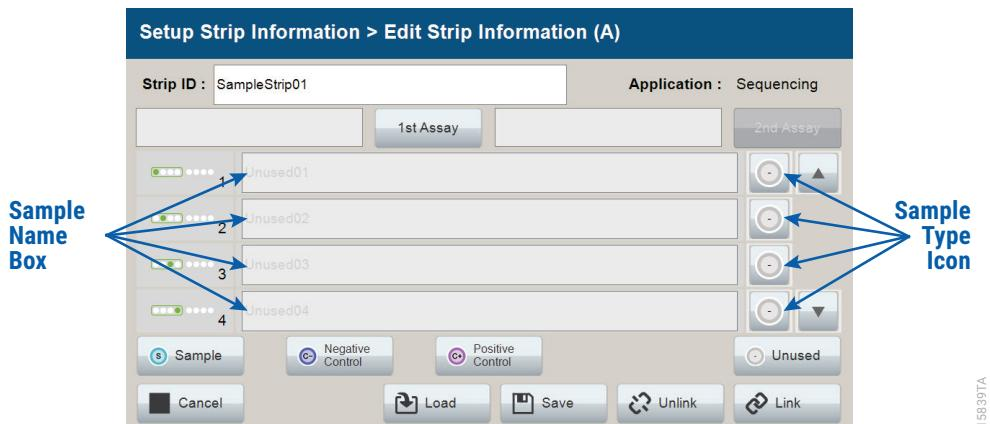
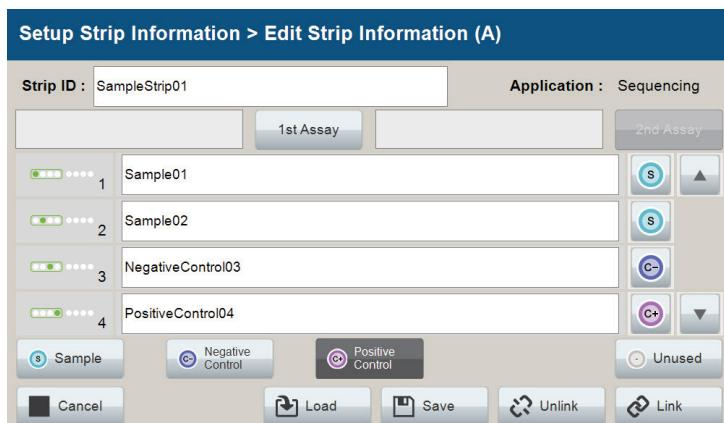
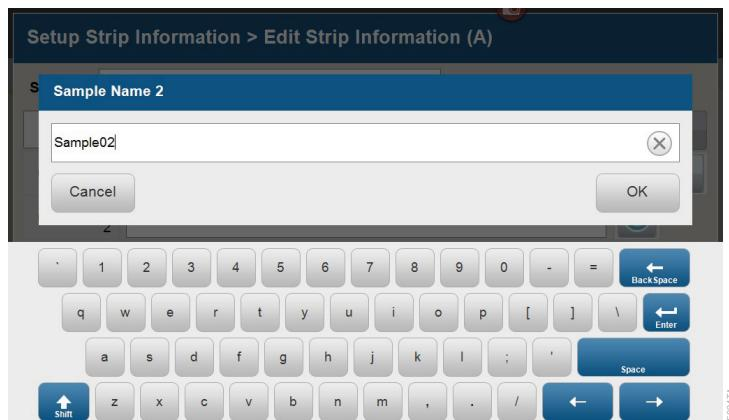
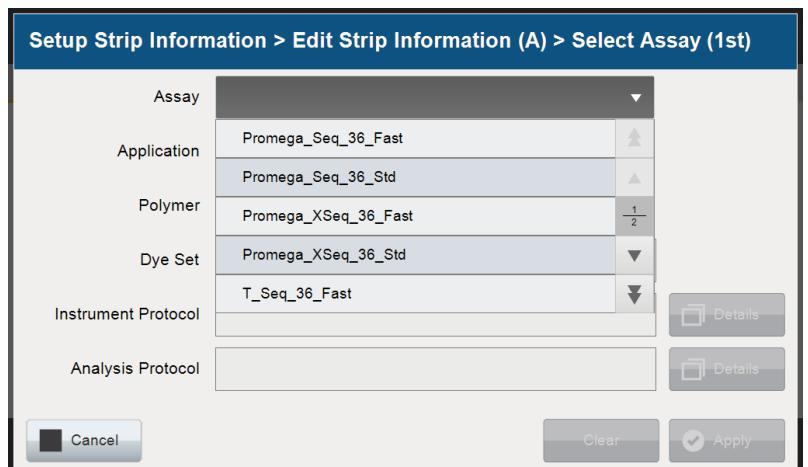

Figure 84. Sample Type and Sample Name on 'Edit Strip Information' screen.
Figure 85. Sample Name Entry on 'Edit Strip Information' screen.
Figure 86. 'Set Sample Name' window.
Figure 87. 'Select Assay' screen.
2. Select a sample type on the 'Edit Strip Information' screen (Figure 84). Sample types must be selected for each well position before the **Sample Name** box becomes active for entry of sample name. Sample types available for sequencing analysis are listed in the following table.
- To assign a sample type to a well, select the appropriate sample type along the bottom of the 'Edit Strip Information' screen (Figure 84), and then select the **Sample Type** icon to the right of the sample name field for the desired well. This icon will then display the sample type selected for that well (Figure 85).
- Enter a sample name for each well position by selecting the **Sample Name** box adjacent to the well number on the 'Edit Strip Information' screen (Figure 85). This opens the 'Set Sample Name' window, and a keypad will become active on the touch screen (Figure 86). Alternatively, the Sample Name can be entered using a traditional keyboard if one is connected to the Spectrum Compact CE System. Enter the appropriate sample name, and then select **OK** to exit and return to the 'Edit Strip Information' screen. The following table lists rules for characters that can be used for a sample name.
5. The Spectrum Compact Control Software includes preloaded run assays for use with chemistries available from commercial suppliers. To create a new assay or modify an existing assay, see Section 7. To assign a run assay to an injection set, select **1st Assay** on the right side of the 1st Assay field (Figure 85). This opens the 'Select Assay' screen (Figure 87). Select an assay from the drop-down list using the scroll buttons to find the appropriate assay.